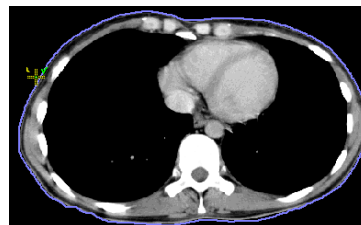

Figure 260 – Defining the left point of the bolus
- Define the leftmost point of the bolus by clicking the contour. The cursor marked as **L** will also be displayed with a green tick when it reaches the contour line of the currently selected ROI (see Figure 260).